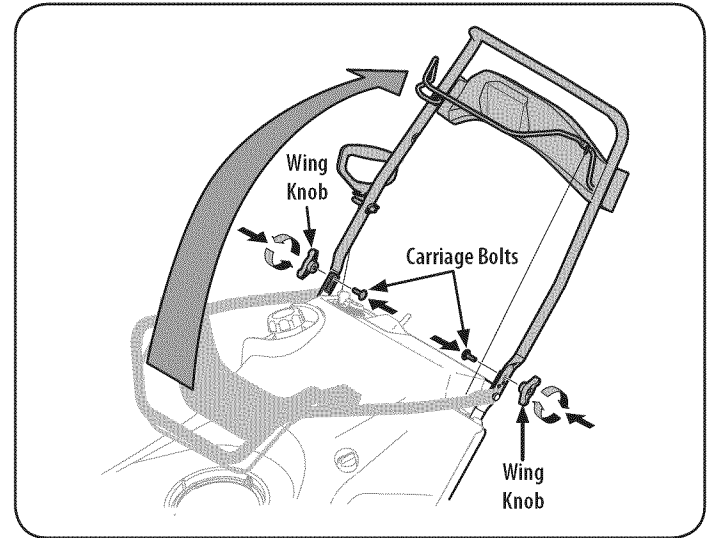

Figure 2
2. Pivot the upper handle into the operating position. Be sure not to pinch any of the cables in the process. See Figure 2.